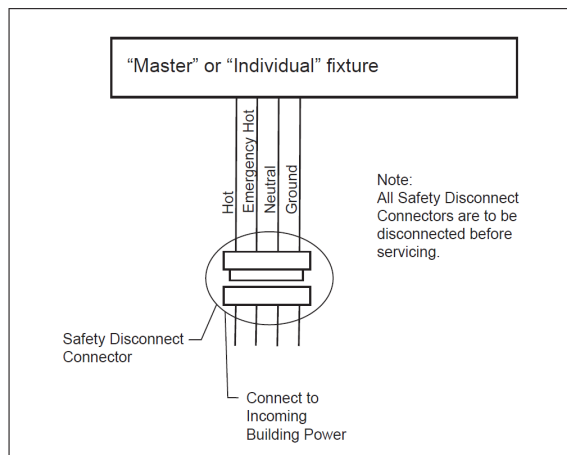

Figure 1
- * For 277V installations, disconnect the safety disconnect plug(s) (located in the wireway compartment) to fully disconnect power to the fixture before servicing. (See Figure 1)